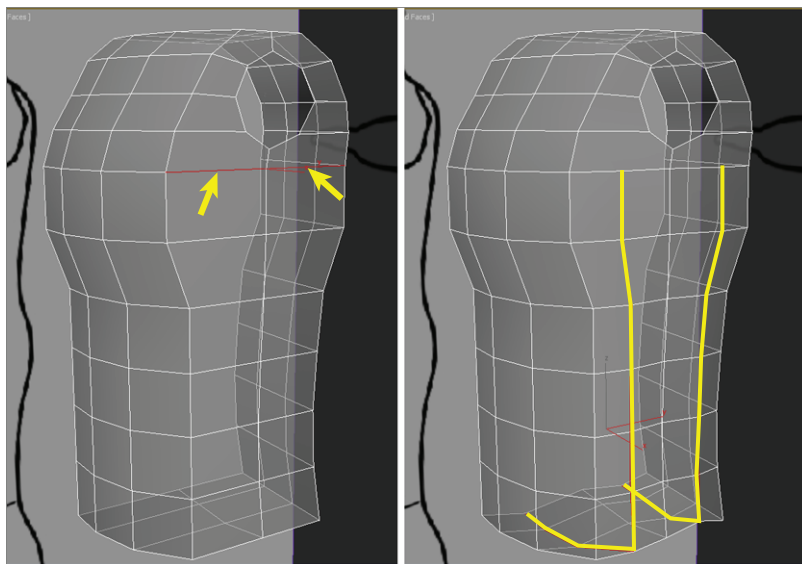

FIGURE 7.13 Select the two horizontal edges under the armhole (left) and use Flow Connect to create more edges (right).
21. Enter See-Through mode (Alt+X), and select the two horizontal edges under the armhole, as shown in Figure 7.13 (left). On the Graphite Modeling Tools tab > Modify Selection panel, click Ring.
22. Again, select Graphite Modeling Tools tab > Loops > Flow Connect to create two new loops of edges, as shown on the right in Figure 7.13.